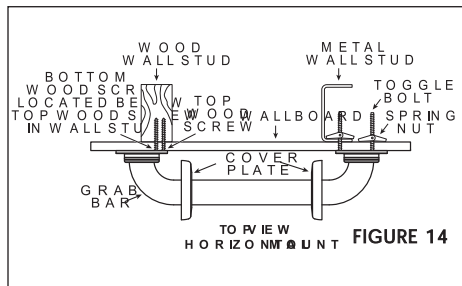

FIGURE 14
3. On the end that will be installed into metal wall stud, use the 3/8-inch power drill and 5/8-inch drill bit to drill three (3) holes where marked. NOTE: *If installing Grab Bar over ceramic tiles, the 7/8-inch carbide drill bit will be needed for drilling through tile, in order to prevent damage to tiles. Once a hole has been drilled through the tile, use the 5/8-inch drill bit to drill through the backing support for the tile.*
5. Insert one (1) WOOD SCREW into the end of the Grab Bar that will be installed into the wood wall stud. Screw into wall and wall stud (HAND TIGHTEN ONLY) (see Figure 14).
7. Position the end of the Grab Bar with the TOGGLE BOLTS attached so that you can push the spring nuts and butt ends of the TOGGLE BOLTS through the holes that have been drilled. The spring nuts must be completely through the holes in the wall (see Figure 14).
8. Pull the TOGGLE BOLTS toward you and finger tighten the BOLTS to be sure that spring nuts have opened fully against the back side of the wall and metal wall stud (see Figure 14). If the spring nuts have not opened fully, loosen the bolts and repeat Step 8.
10. Repeat Step 5 for the remaining two (2) WOOD SCREWS going into the wood wall stud.